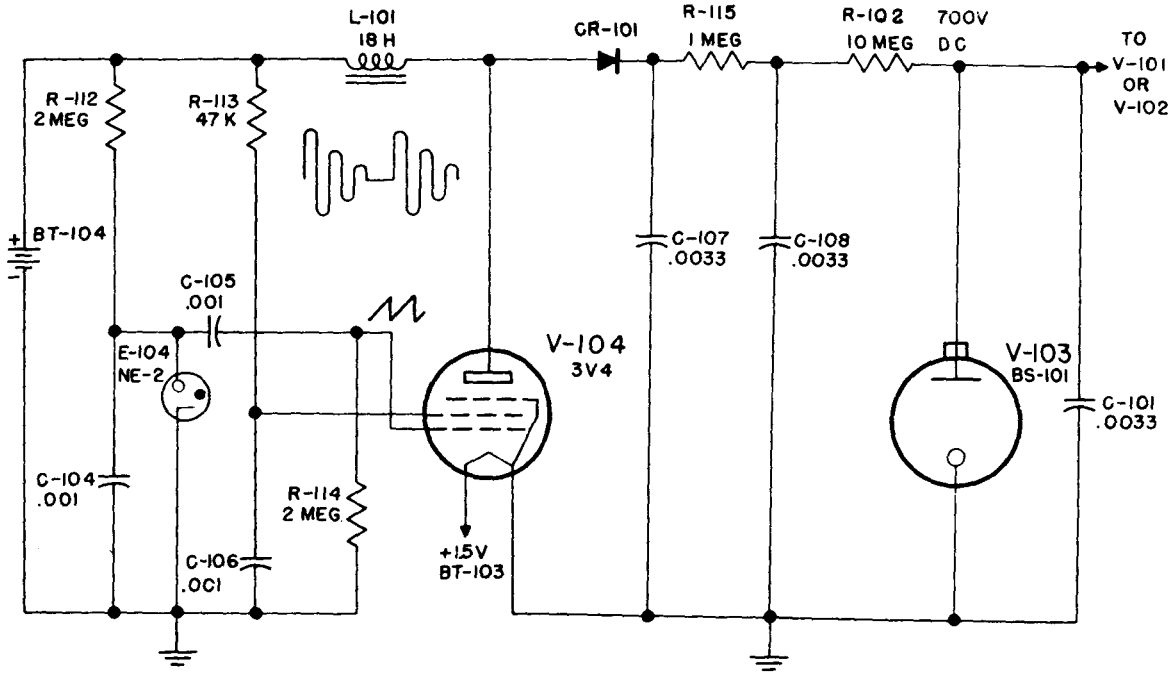

Fig. 2-7 High Power Supply Circuit
f. HIGH-VOLTAGE POWER SUPPLY CIRCUIT. (See Fig. 2-7)--The high voltage power supply circuit consists of a relaxation oscillator circuit, a power amplifier circuit, a rectifying and filtering circuit, and a regulating circuit.
(1) RELAXATION OSCILLATOR CIRCUIT. In this circuit, + 135-volt d-c power from the BT-104 is applied through resistor R-112 to capacitor C-104. Tube E-104, a cold-cathode glow discharge tube, is connected across C-104. Capacitor C-104 charges slowly until it reaches a value equal to the striking voltage, approximately 90 volts, of E-104. As soon as 90 volts is reached, E-104 conducts
(2) POWER AMPLIFIER CIRCUIT. (See Fig. 2-7)--In the power amplifier circuit, +135-volt d-c power is fed through plate load inductor L-101 to power amplifier tube V-104. Resistor R-113 and capacitor C-106 provide the screen grid bias of V-104. The positive-going part of the sawtooth voltage applied to the grid of V-104 causes the V-104 plate current to build up gradually, then the negative going portion of the sawtooth voltage drives the grid rapidly beyond cut-off. When the plate current of V-104 is cut off by the sharp fall of grid voltage, the collapse of the magnetic field of L-101 causes a damped oscillating voltage to exist on the V-104 plate. The amplitude of the oscillations is large because of the large inductance of L-101 and the sudden current change. This oscillating voltage is applied to the rectifying and filtering circuit.
(3) RECTIFYING AND FILTERING CIRCUIT. (See Fig. 2-7)--In the rectifying and filtering circuit, the oscillations of L-101 are rectified. Half-wave rectification is provided by selenium rectifier CR-101; the rectified voltage is filtered in a network consisting of resistor R-115 and capacitors C-107 and C-108. The rectified oscillations provide approximately 900-volt d-c power at the junction of R-115 and C-108. This output is applied to the regulating circuit.
(4) REGULATING CIRCUIT. (See Fig. 2-7)--The regulating circuit consists of resistor R-102 in series with corona-discharge tube V-103. Tube V-103 functions in a manner similar to the standard gaseous discharge voltage regulator tubes, except that it regulates at 700 volts. Resistor R-102 limits the current through V-103. Capacitor C-101, in parallel with V-103, by-passes noise and stray voltages induced in the wires. Regulated 700-volt d-c power is fed from the junction of R-102 and V-103 to resistor R-101 in the detector circuit.